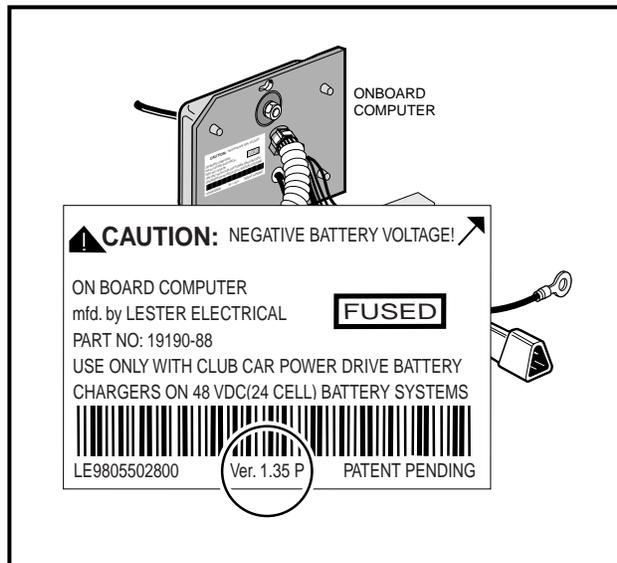

Figure 11-28 OBC V 1.35P
- A CHANGE IN THE DESIGN OF THE OBC RESULTED IN THE INCORPORATION OF A FIELD EMITTING TRANSISTOR (FET) PROTECTION SYSTEM WITHIN THE SOLENOID LOCKOUT CIRCUIT. THIS PROTECTS THE FET FROM BEING BLOWN AND ALLOWS IT TO BE RESET. THE NEW OBC'S ARE MARKED WITH THE NUMBER V1.35P ON THE LABEL (**FIGURE 11-28, PAGE 11-21**). VEHICLES WITH SERIAL NUMBERS 9841-703262 AND GREATER ARE EQUIPPED WITH THIS NEW FET PROTECTION SYSTEM.